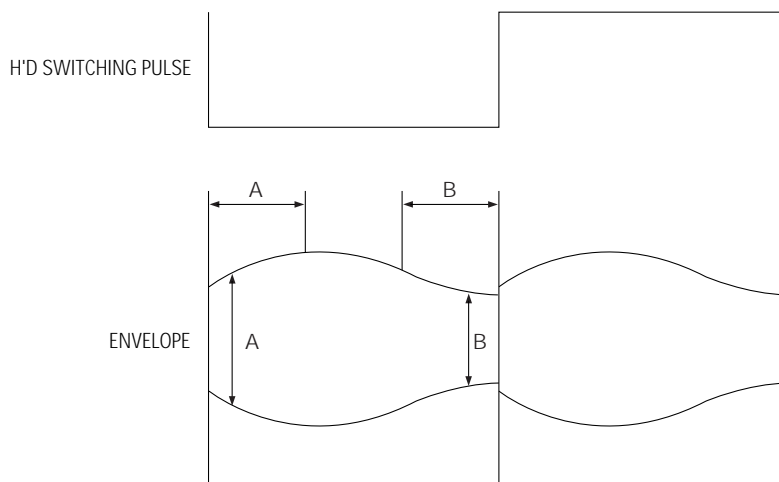

Fig. 4-12 Adjustment Points
- 4) If the section A in Fig. 4-12 does not meet the specification, adjust the guide roller S up or down.
- 5) If the section B in Fig. 4-12 does not meet the specification, adjust the guide roller T up or down.